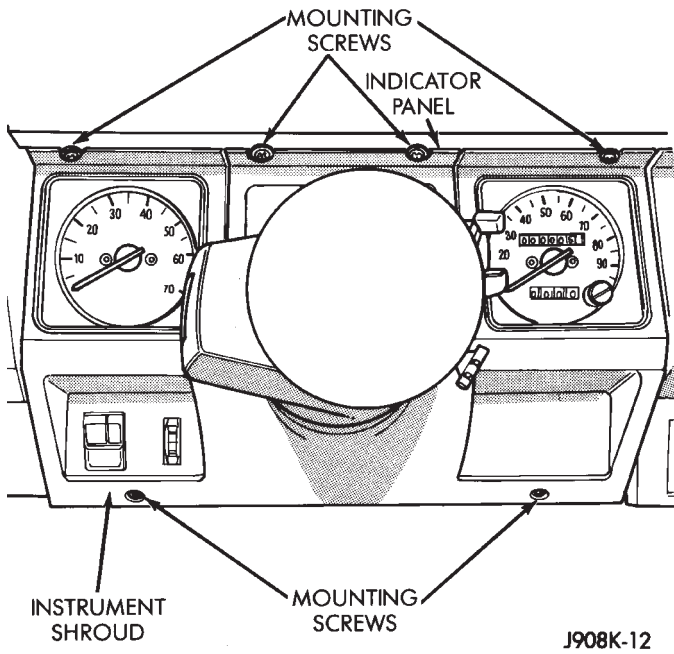

Fig. 10 Instrument Housing Remove/Install
- (15) Remove turn/hazard switch attaching screws.
- (16) Remove 6 housing screws (Fig. 10).